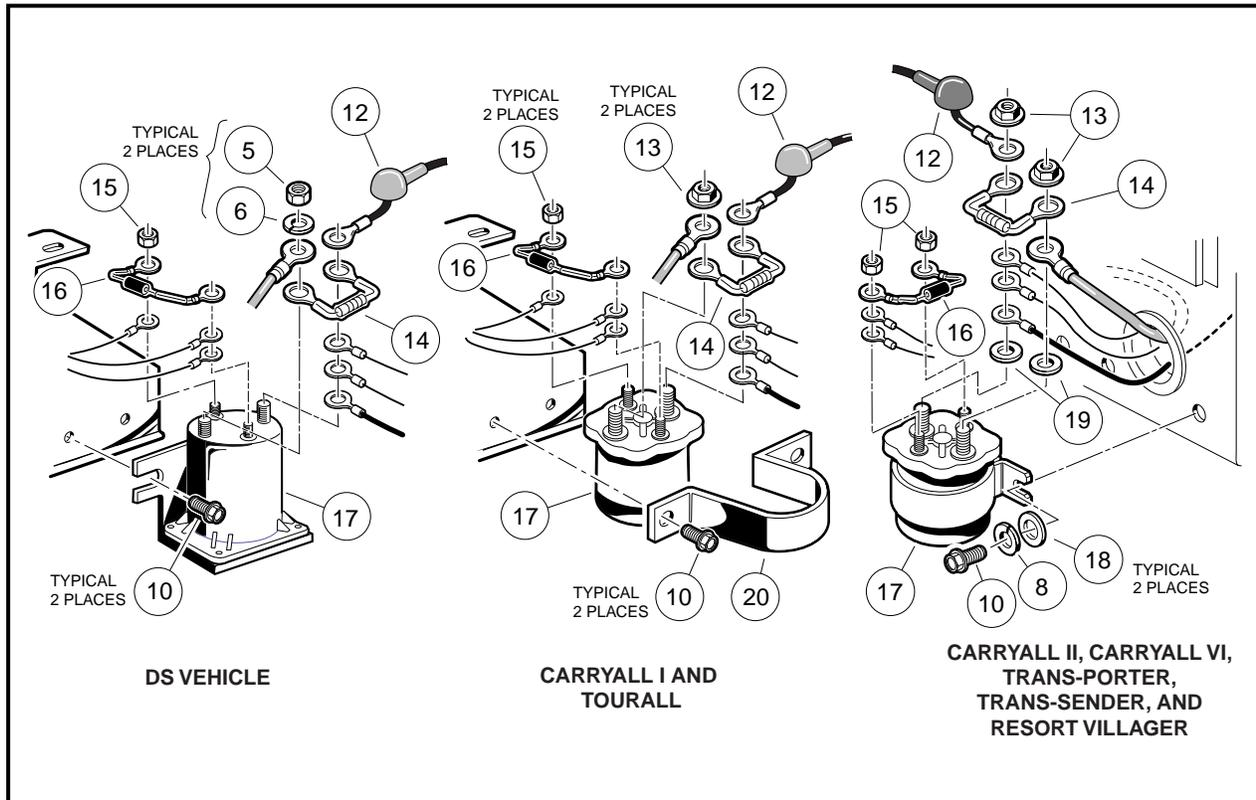

Figure 12-5 Solenoid Removal and Installation
The solenoid is located on the electrical component mounting plate (**Figure 12-5, Page 12-8**).
3. **For DS, Carryall I and Tourall Vehicles:** Remove two thread rolling screws (10) and mounting bracket (20) (**Figure 12-5, Page 12-8**).
4. **For Carryall II and VI, Trans-Porter/Trans-Sender and Resort Villager Vehicles:** Remove two thread rolling screws (10), and if present, lock washers (8) and flat washers (18) (**Figure 12-5, Page 12-8**).
2. Connect wires to the solenoid as shown in the wiring diagrams in **Section 11, Figures 11-2 through 11-6, Pages 11-3 through 11-7**. Tighten hex nut (15) to 19 in.lb (2.1 N-m). Tighten hex nut (5) or flange nut (13) to 60 in.lb (6.7 N-m) (**Figure 12-5, Page 12-8**).